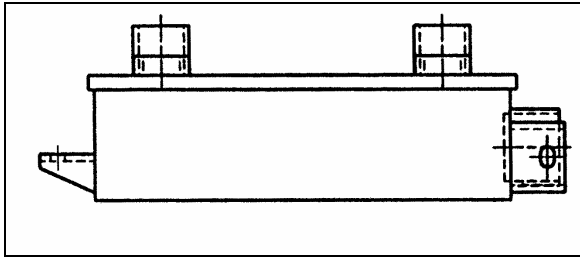

FIGURE 13: COOLER WITH RETARDER 07073
18. Adjust the retarder pressure to  $80 \pm 3$  psi with the air pressure regulator. For more information refer to Section 12, "BRAKE AND AIR SYSTEM", under heading "AIR PRESSURE REGULATOR". The air pressure regulator is located at back of engine compartment, on R.H. side (Fig. 13) or in the R.H. side rear service compartment.